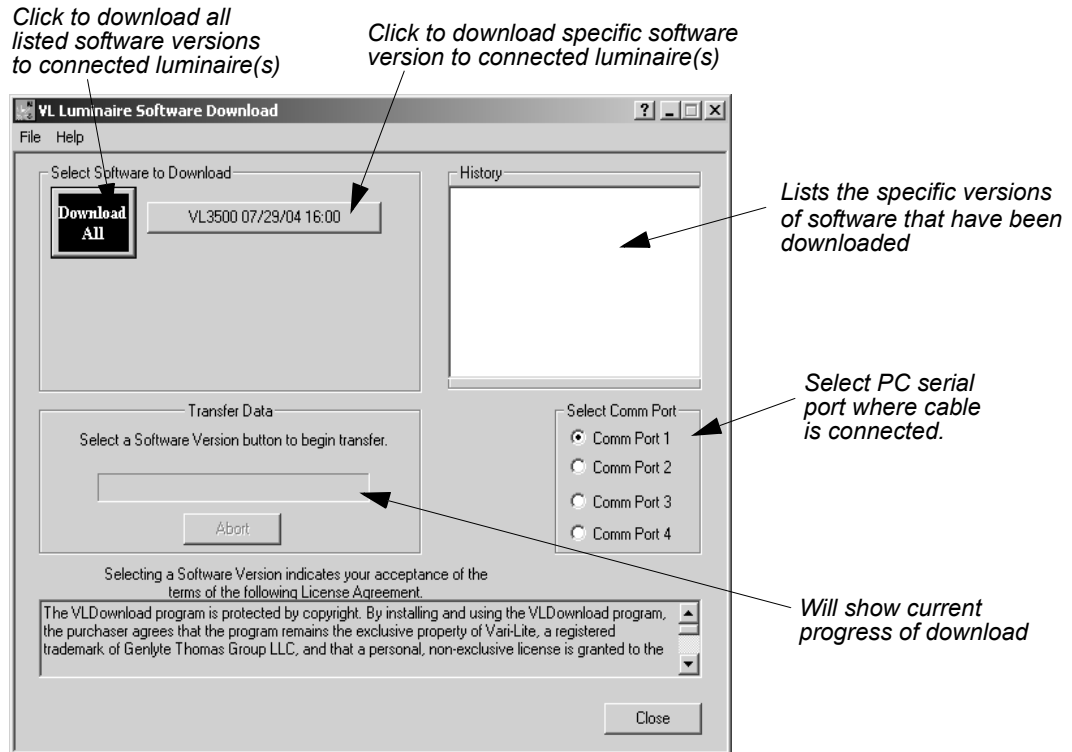

Figure 3-5: VL Download Program Window
- Step 6. At **Select Comm Port** section of window (refer to Figure 3-5 on next page), select serial Comm Port (Comm Port 1, Comm Port 2, Comm Port 3, or Comm Port 4) where *Serial Straight Thru Cable* is connected.